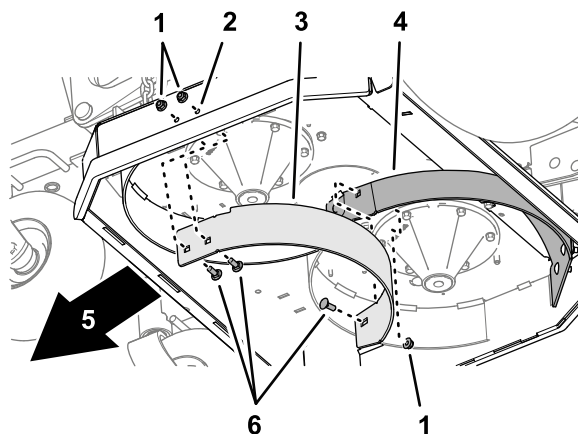

Figure 11
1. Remove the 3 carriage bolts (3/8 x 1 inch) and 3 flange locknuts (3/8) that secure the left baffle to the side of the deck and the right baffle, and remove the left baffle (Figure 11).